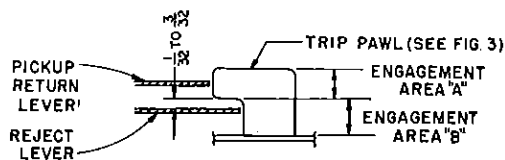

Figure 7.
B. The vertical position on the shaft of the pickup return lever, *Figure 3*, should allow interference free movement of the pickup arm in play position. The lever should engage the trip pawl in the center of the engagement area A, *Figure 7*.
C. The reject lever, *Figure 3*, should engage the trip pawl in engagement area B, *Figure 7* and clear area B projection 1/32 inch to 3/32 inch.
H. Adjust clearance between lower spindle flange and base to 1/32 inch minimum with shim washers Part No. 923476, (.010 inch) and Part No. 923477, (.015 inch) on base sleeve between spindle shaft casting in base plate and bottom thrust washer of lower spindle thrust bearing, *Figure 7*. See Paragraph B and 3 of *Spindle Assembly Instruction*.